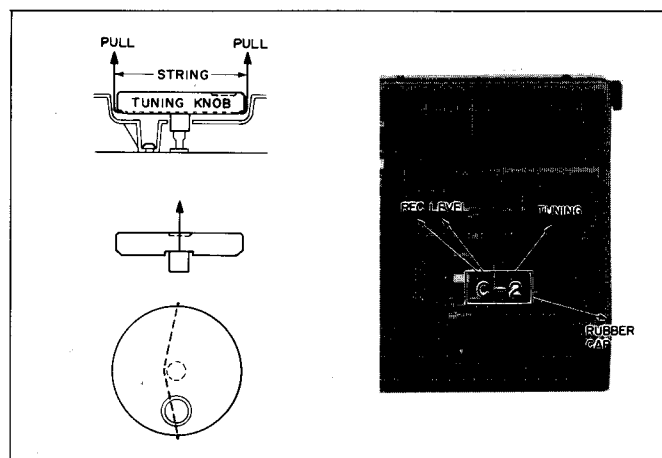

Figure 3-3
C TOP CABINET REMOVAL (Refer to Figures 3-3 and 3-4)
2. Remove three knobs (REC LEVEL/TUNING) and the rubber cap. (Fig. 3-3)